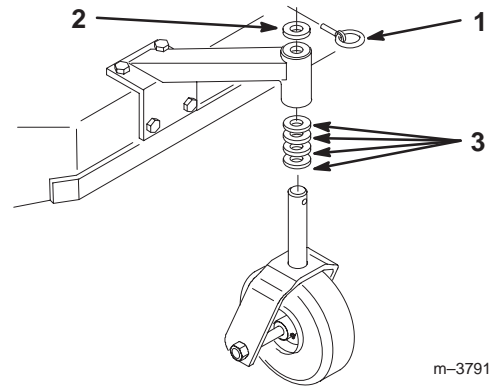

Figure 21
1. Using the height-of-cut chart, adjust the caster spacers to match with the axle hole selected (Fig. 21).
2. Remove clevis pin, slide castor from support and change spacers (Fig. 21).
3. Install castor in support and insert clevis pin (Fig. 21).